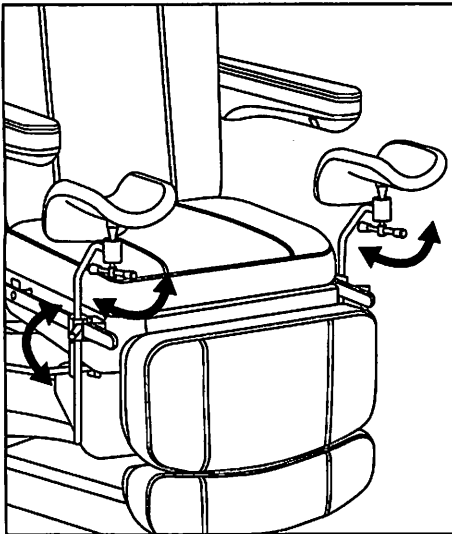
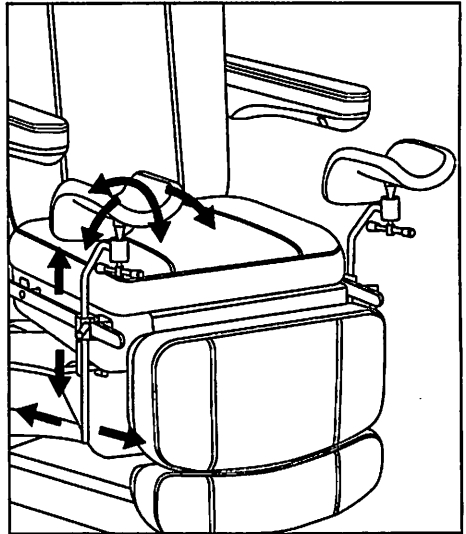

Figure 12
Figure 13
- As shown in Figure 12, unlock the rotating rod under the leg support counterclockwise so that the rubber fixing pad above the leg support can rotate freely, as shown in Figure 13. After adjusting to the appropriate position, rotate the rotating rod clockwise under the leg support to lock the rubber fixing pad above the leg support.
- As shown in Figure 12, rotate the locking rod of the vertical support rod of the leg support counterclockwise so that the vertical support rod can move freely up and down, as shown in Figure 13, and can move forward and backward, as shown in Figure 13. After adjusting the vertical support rod to the appropriate position, rotate the locking rod of the vertical support rod clockwise to lock the rubber fixing pad vertical support rod above the leg support.